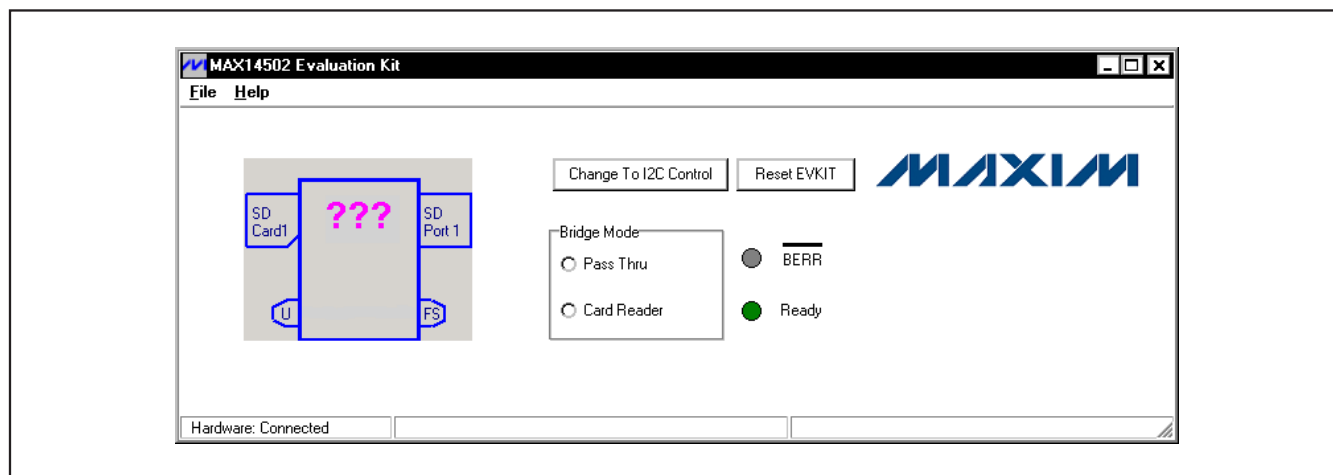

Figure 1. MAX14502 Software Main Window (Simple Control Mode)
- 12) The EV kit software main window appears, as shown in Figure 1. Verify that **Hardware: Connected** is displayed on the status bar at the bottom of the software main window.